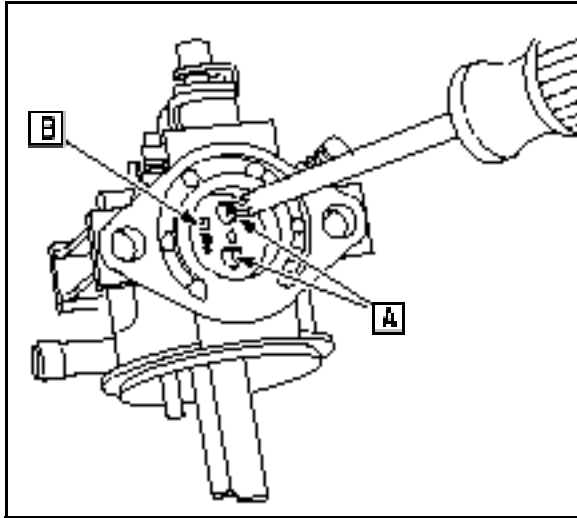

Fig. 57
13. Remove the throttle plate screws (A).
14. Remove the throttle plate (B) Fig. 57).